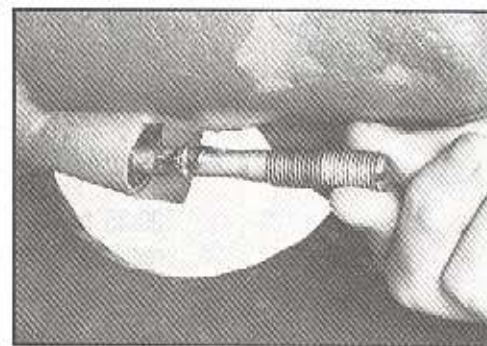

Figure 150
40. Install and turn poppet adjusting screw (48) assembly into the hole provided in housing (47) leaving .88 inch (22 mm) of exposed adjusting screw thread. SEE FIGURE 150.